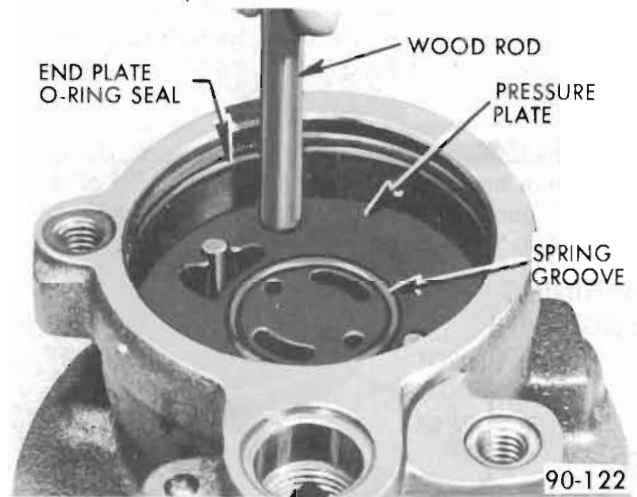

Figure 90-68 - Seating Pressure Plate in Housing
10. Lubricate the outside diameter and chamfer of pressure plate with petroleum jelly and install on dowel pins with ported face toward rotor. Dowel pins fit into slots in plate that are nearest outside diameter of plate. Use a soft plastic or wood rod and lightly tap around *outside diameter* of pressure plate to seat it. See Figure 90-68. Pressure
11. Install new end plate "O" ring seal in groove in bore of housing. Be sure not to install it in end plate retaining ring groove which is first groove from rear of housing. See Figure 90-68.